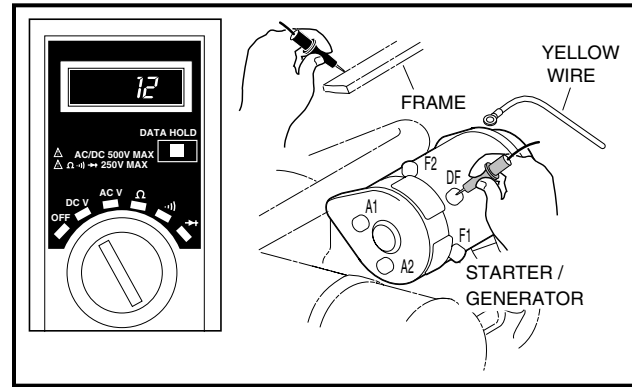

FIGURE 12-26
**Test Procedure 9 - Starter/Generator (Generator Function) (Figure 12-26):****⚠ DANGER**
4. Reconnect the yellow wire to the (DF) terminal on the starter/generator.